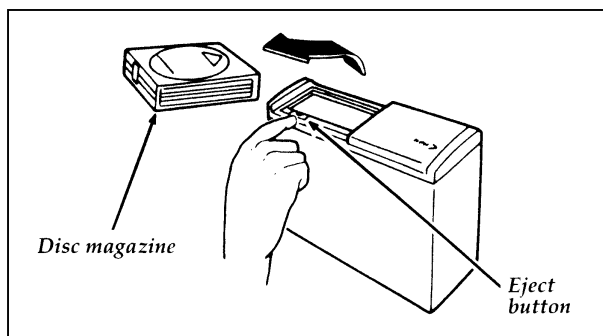

Figure 2
2. Press the orange Eject button to eject the disc "magazine" (holds 6 discs) (Figure 2).